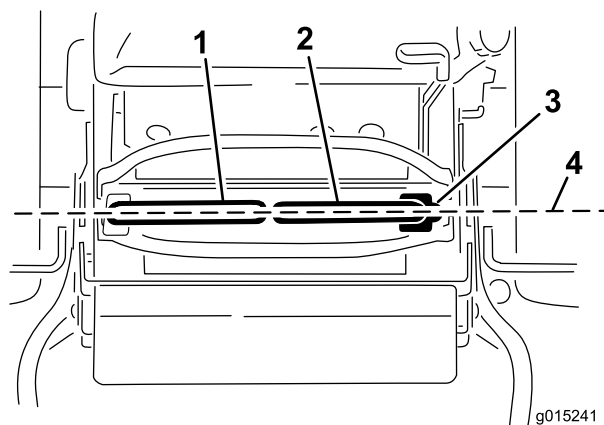

Figure 27
5. Rotate the right cable adjustment to position the right motion control in the center of the control panel neutral lock slot (Figure 27).